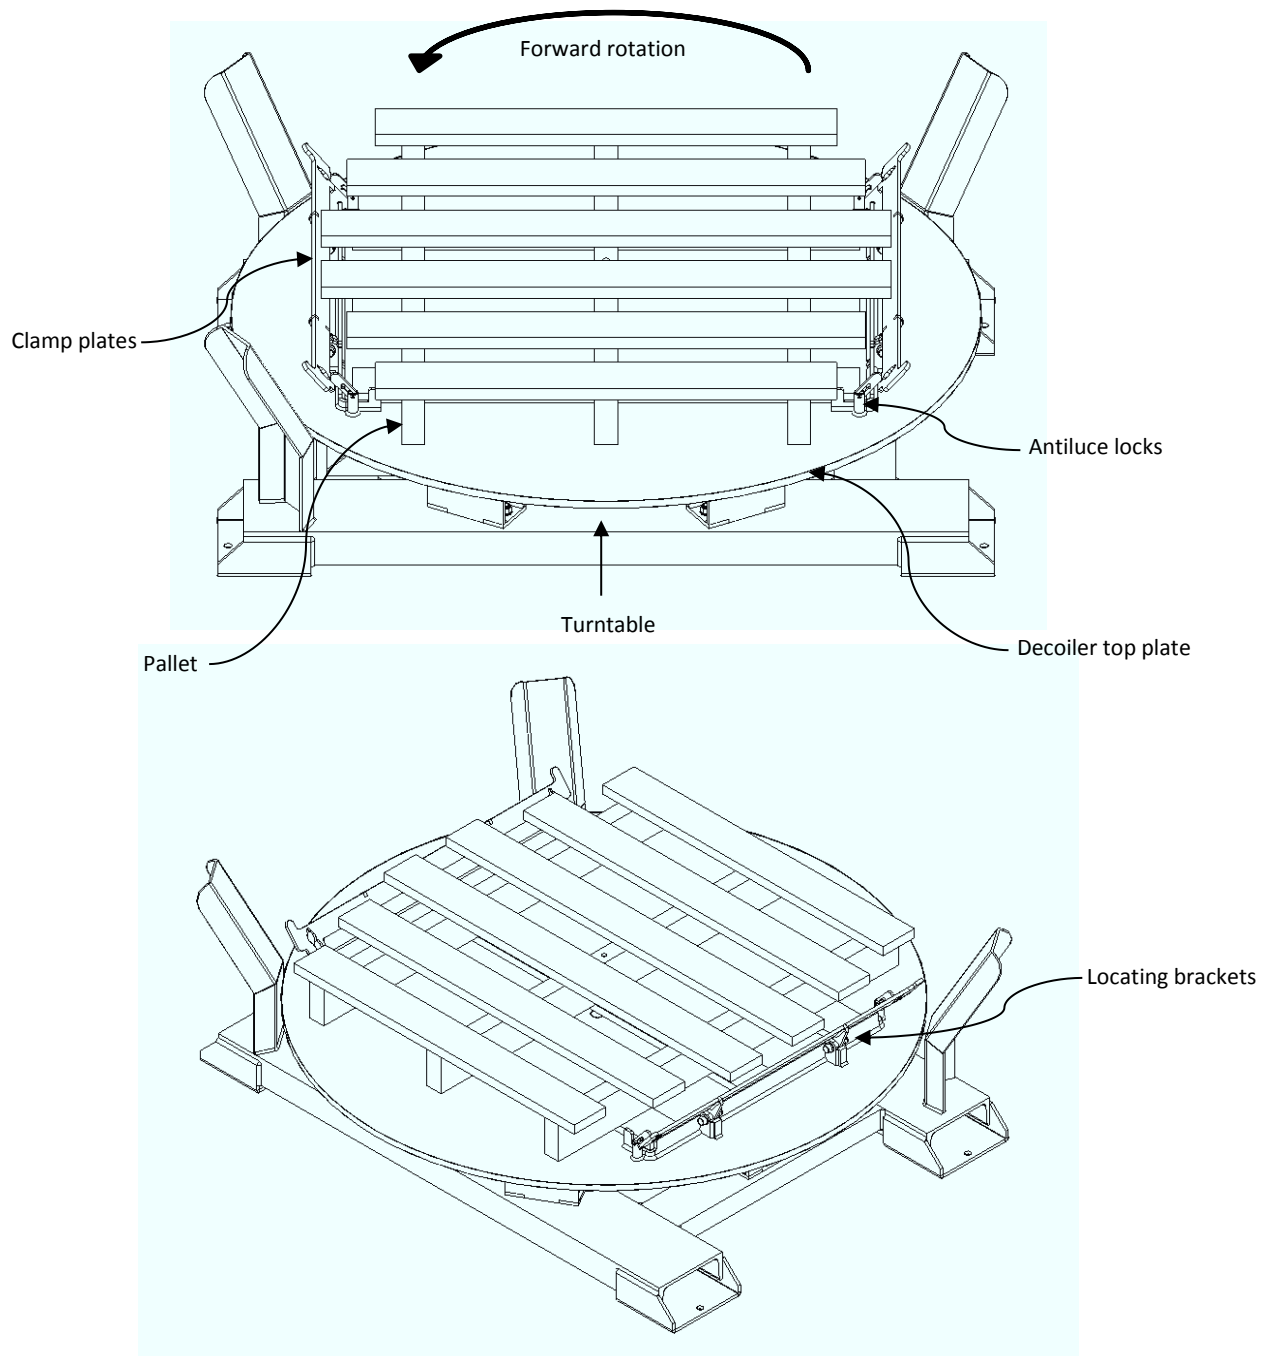

Figure 10: Pallet position on decoiler
4. Ensure that there is nothing lying on the turntable (see Figure 10) that can be thrown off when the decoiler spins.
When loading the pallet, rotate the decoiler using MANUAL mode on the coiler so that the sides of the pallet are parallel with the locating brackets. Loosen the antiluce locks to flip open the clamp plates and swivel them to allow placement of the pallet between the locating brackets, onto the top plate of the decoiler. Take caution in placing the pallet correctly between the locating brackets. The pallet should not rest on any other part except the top plate of the decoiler. Once the pallet is positioned on the decoiler, flip the clamp plates closed and lock the antiluce locks. The pallet is now securely loaded onto the decoiler and is ready for decoiling. Figure 10 shows the decoiler with the clamp plates in the open position and the pallet loaded in the correct position.